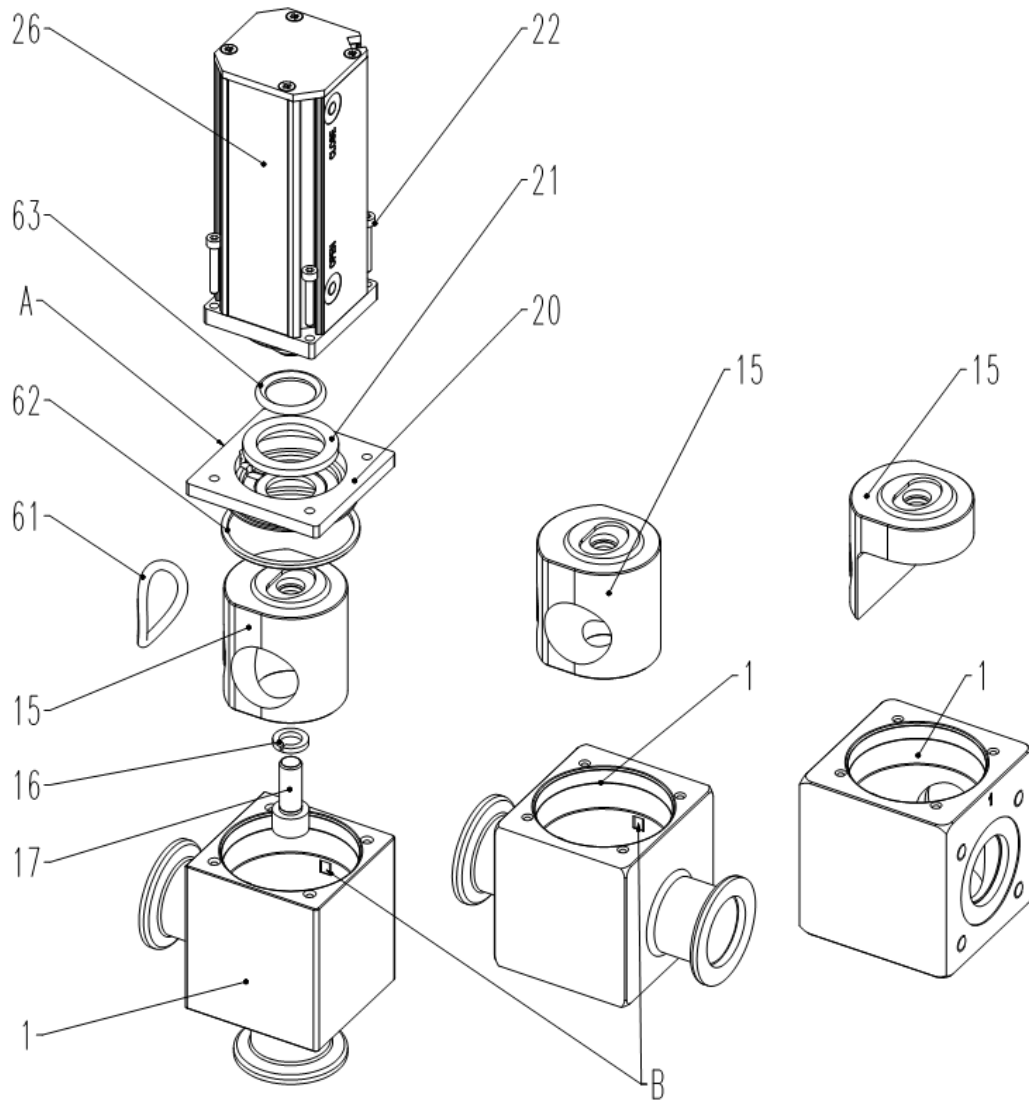

Figure 6-2
The leak detection port; see Figure «Figure 6-2» on page 16, should be located on the opposite side from the compressed air inlets.
22. Insert the gate fixation screw (17) and washer (16).
23. Tighten the gate fixation screw (17) with a tightening torque of 10 Nm.
24. Put new gate seal (61) on the groove and press it into the groove at 4 opposite spots. Press remaining sections uniformly into groove.
25. Put new bonnet seal (62) into bonnet flange (20).
26. Make sure that the gate (15) is located in an intermediate position (not locked in an end-position).
27. Carefully insert the valve insert into the body (1).
-  See Figure «Figure 6-2» on page 16, for correct location of venting groove inside valve body (1) with compressed air connection ports from the actuator.
28. Fasten actuator screws (22) uniformly and in crosswise order.